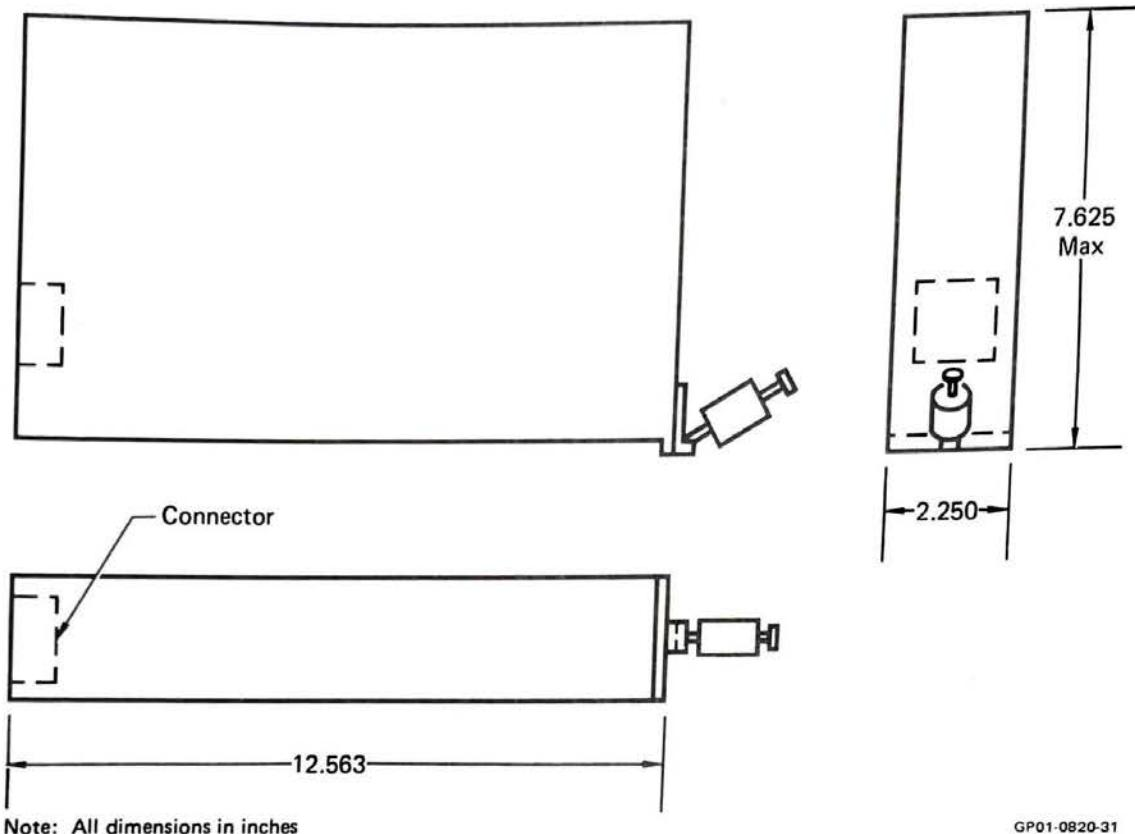

FIGURE 4-10
The TRMD will interface with the Mission Computer (MC) through a new UK GFE Interface Unit (IFU). The IFU proposed outline and aircraft location are shown on Figures 4-10 and 4-11 respectibely.